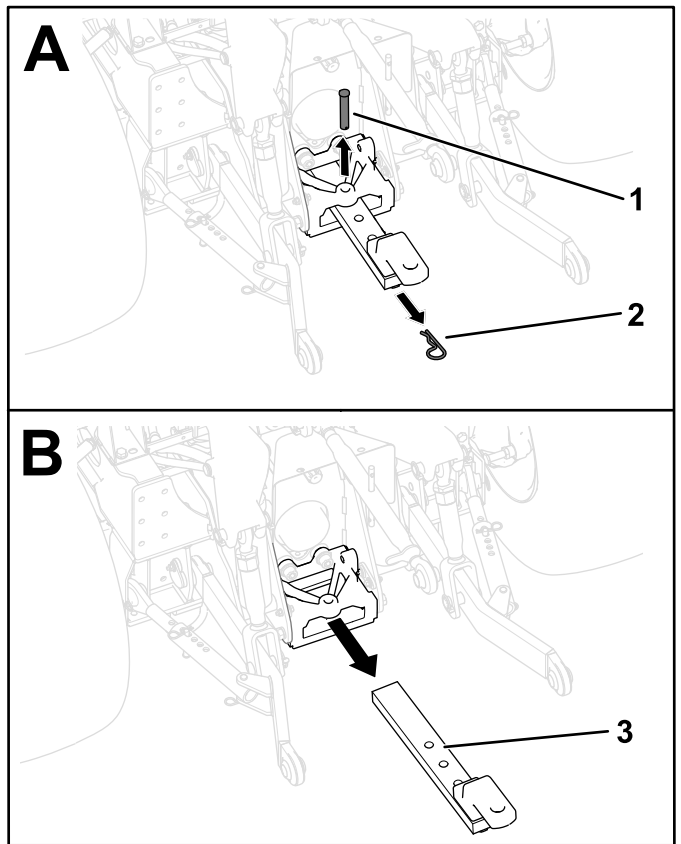

Figure 20
1. Remove the hairpin cotter and the clevis pin that secure the drawbar to the drawbar support (Figure 20).